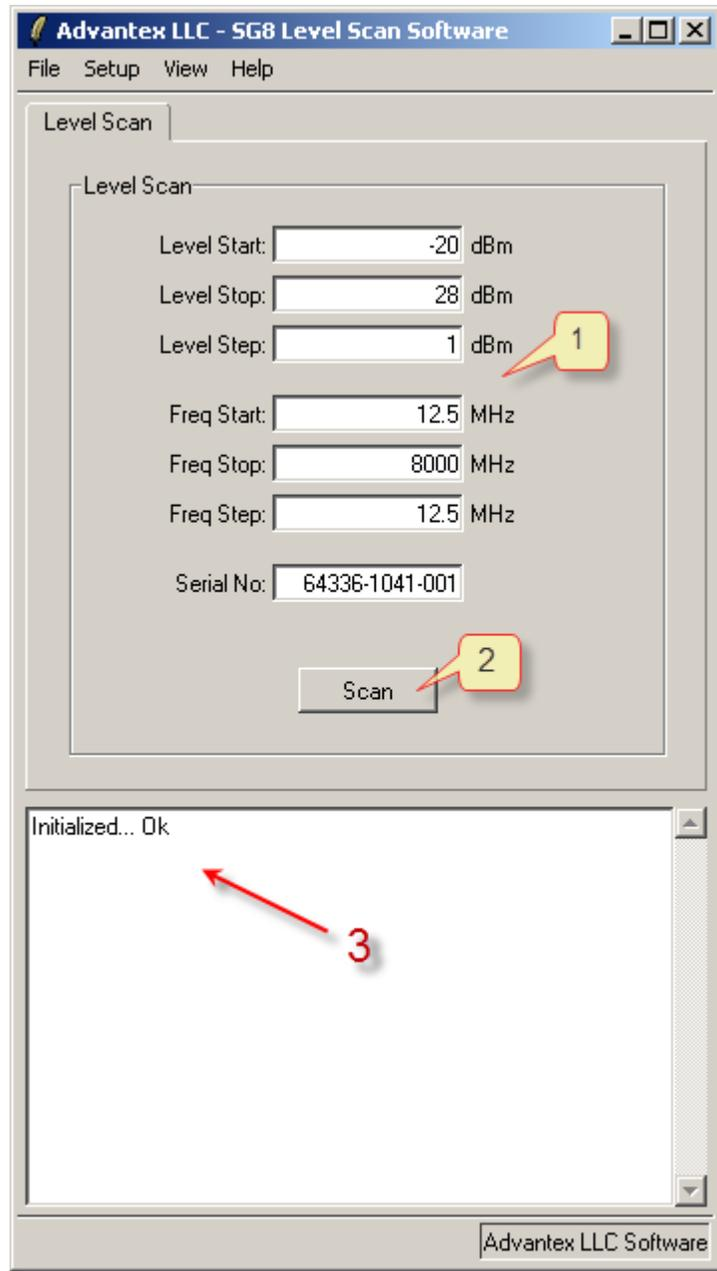

Figure 15: SG8_Level_Scan application
3. Specify start, stop and step values for level and frequency (item 1, fig. 15). It's recommended to use 1 dB level grid, since step used in calibration
4. Press "Scan" button (item 2, fig. 15), current frequency and level values will be displayed in log window (item 3, fig. 15). As soon as the application reaches its end point, the string "Done in .. minutes and .. seconds" appears in the log window, and two files appear in the application directory – `SG8_level_<Serial_No>.csv` and `SG8_status_<Serial_No>.csv`. These two files contain scanned data that should be processed by `SG8_TP_LevelScan` application (see next section).